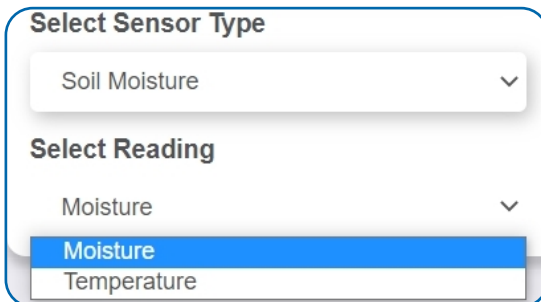

Figure 29
- Next, you will be asked to input the trigger settings. You have the option of setting this trigger to detect “moisture” or “temperature.” See Figure 29.